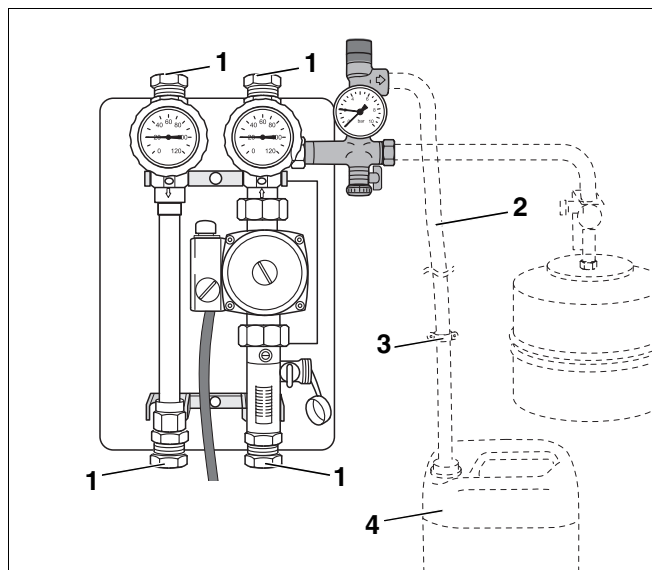

Fig. 9 Solar pump station connections
- ▶ Connect the pipes to the collectors and to the cylinder via compression fittings (Fig. 9, **Item 1**). Prevent components from twisting.
- ▶ Run a pipe (Fig. 9, **Item 2**) from the exit opening in the safety valve to the empty glycol container or other suitable high temperature resistant container (Fig. 9, **Item 4**) and secure it.